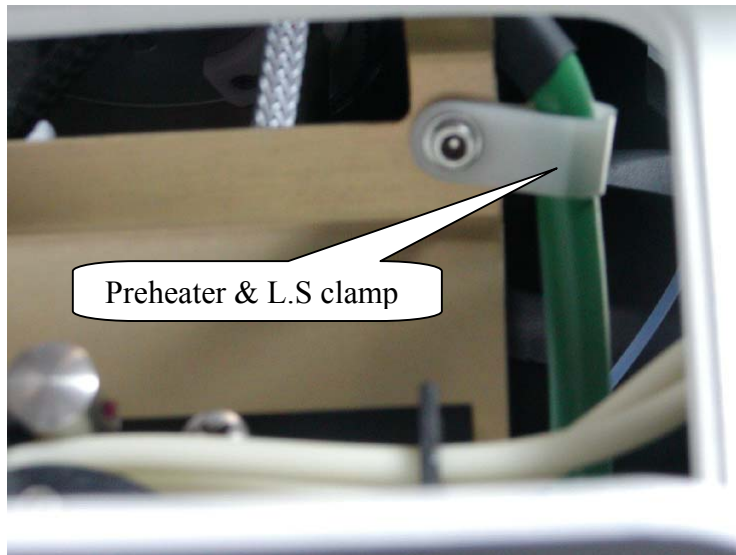

Fig. 44
8. Remove the Preheater clamp located into the Peristaltic Pump housing, unscrewing its fastening screw (Fig. 44).